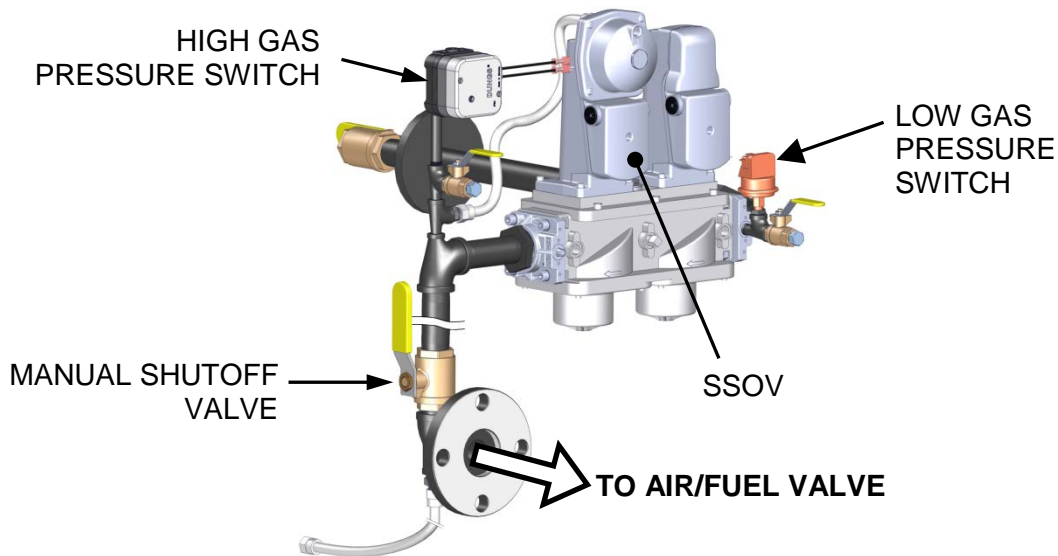

Figure 5-3. Manual Gas Shut-Off Valve Location (INN800-1060 Gas Train)
3. Close the manual gas shutoff valve located between the Safety Shut-Off Valve (SSOV) and the Air/Fuel Valve (see Figure 5-3).
8. Once flame is proven, close the 1" manual gas shut-off valve located between the SSOV (Figure 5-3) and the Air/Fuel Valve.